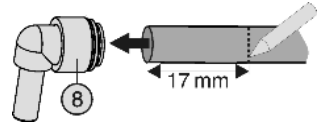

Fig. 15
- ▶ Push the hoses into the plug-in elbows *Fig. 15 (8)*, pushing them over the ridges as far as they will go (approx. 17 mm marked insertion depth.)